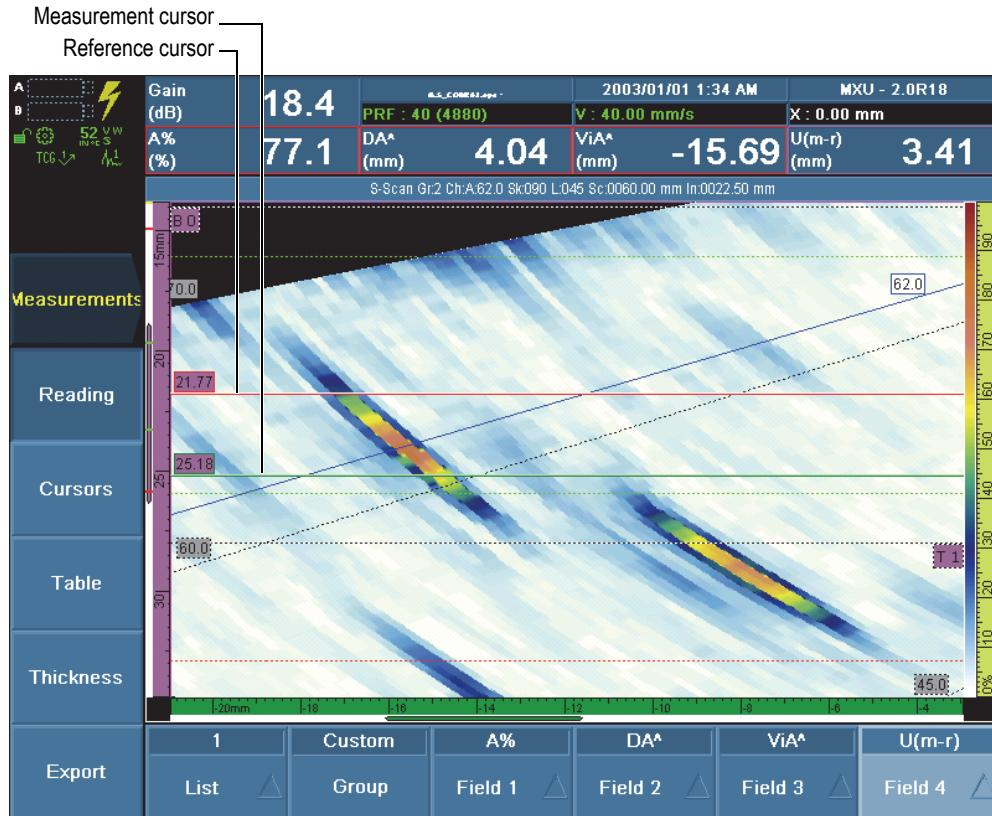

Figure 5 Zooming and positioning the cursors around an indication
- (1) Press the Cursor key (, or choose **Measurement > Cursors > Selection**, and then select **Data**.
- (2) Set **Measurement > Cursors > Scan = 0 mm**.
- (3) While looking at the S-scan view and still editing the **Measurement > Cursors > Scan** parameter value, turn the Scroll knob clockwise to scan the data slices until you find an unusual reflector.
6. To size the indication using the reference (red line) and the measurement (green line) cursors (see Figure 5 on page 20):